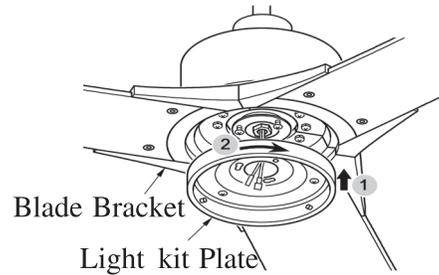

FIG.17
2. Gently pull the wire through light kit plate. Have the key hole over the loosened screws. Turn the light kit plate clockwise ,and tighten the previously removed and loosened screws. (See fig 17 & 18)